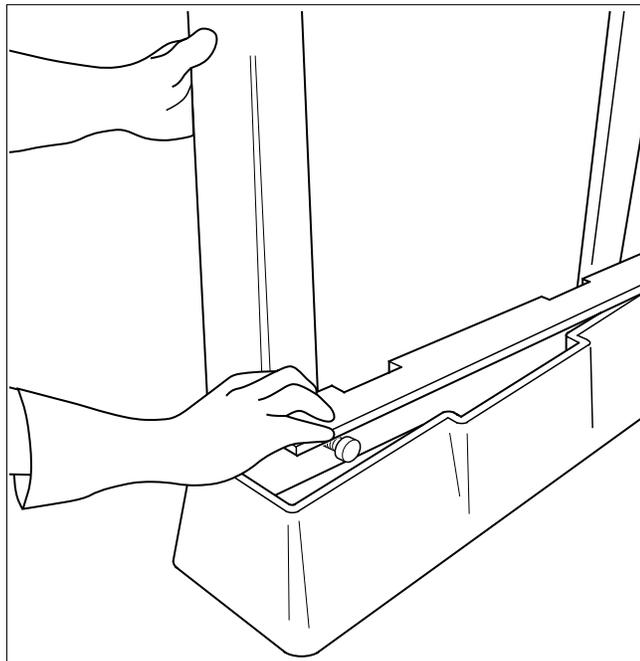

Fig. 4.9. Inserting the stabilizer bar into the universal base.
2. Insert the stabilizer bar (Figure 4.9).